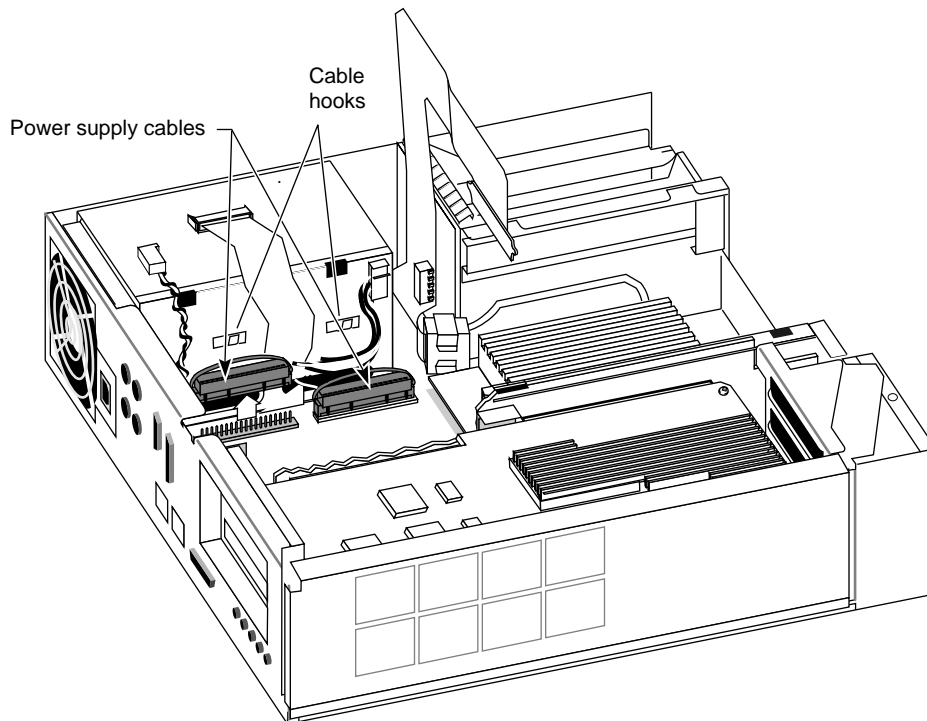

Figure 9-27 Connecting the Power Cables to the Baseboard
- Connect the two power supply connectors as shown in Figure 9-27. These connectors are not keyed, so make sure you align them correctly before pressing firmly with your thumbs to seat them.